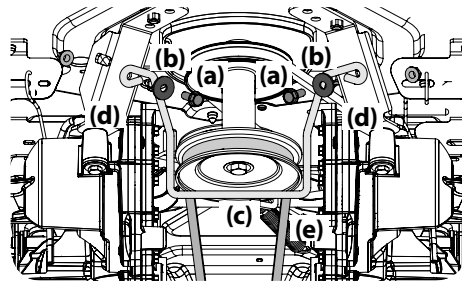
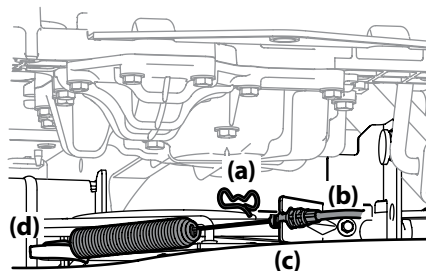

Figure 4-12
Figure 4-13
- Remove the hex washer screw (a), flat washer (b) securing the belt keeper rod (c) to the transmission mount brackets (d) and remove the belt keeper rod (c). See Figure 4-12.
- Remove the bow pin (a) that secures the PTO cable (b) to the bracket (c) on the deck, slide the PTO cable (b) out of the bracket (c) and unhook the spring from the idler bracket (d). See Figure 4-13.
- Remove the 'V' belt (e) from the PTO pulley on manual PTO tractors on the bottom of the engine and skip ahead to Step 9. See Figure 4-12.
13. On manual PTO tractors, reinstall the belt keeper rod (Refer to Figure 4-12) and the PTO cable (Refer to Figure 4-13).